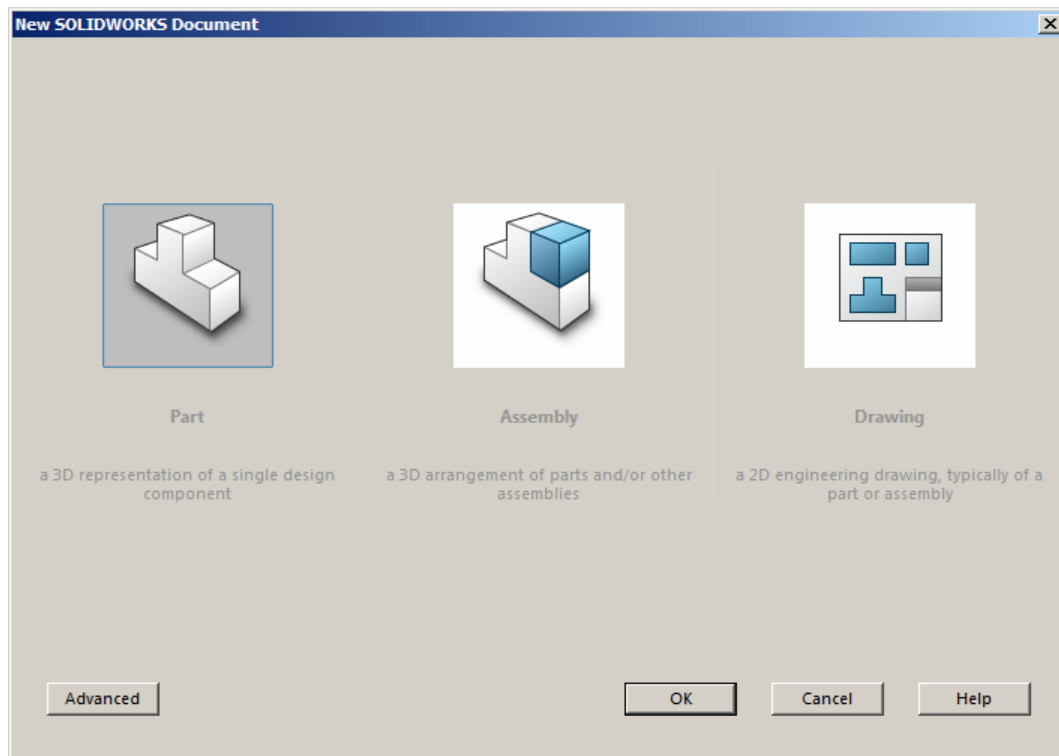

Figure 2-58 The New SOLIDWORKS Document dialog box
2. Choose the **New Document** option from the **Getting Started** rollout of the **SOLIDWORKS Resources** task pane; the **New SOLIDWORKS Document** dialog box is displayed, as shown in Figure 2-58.